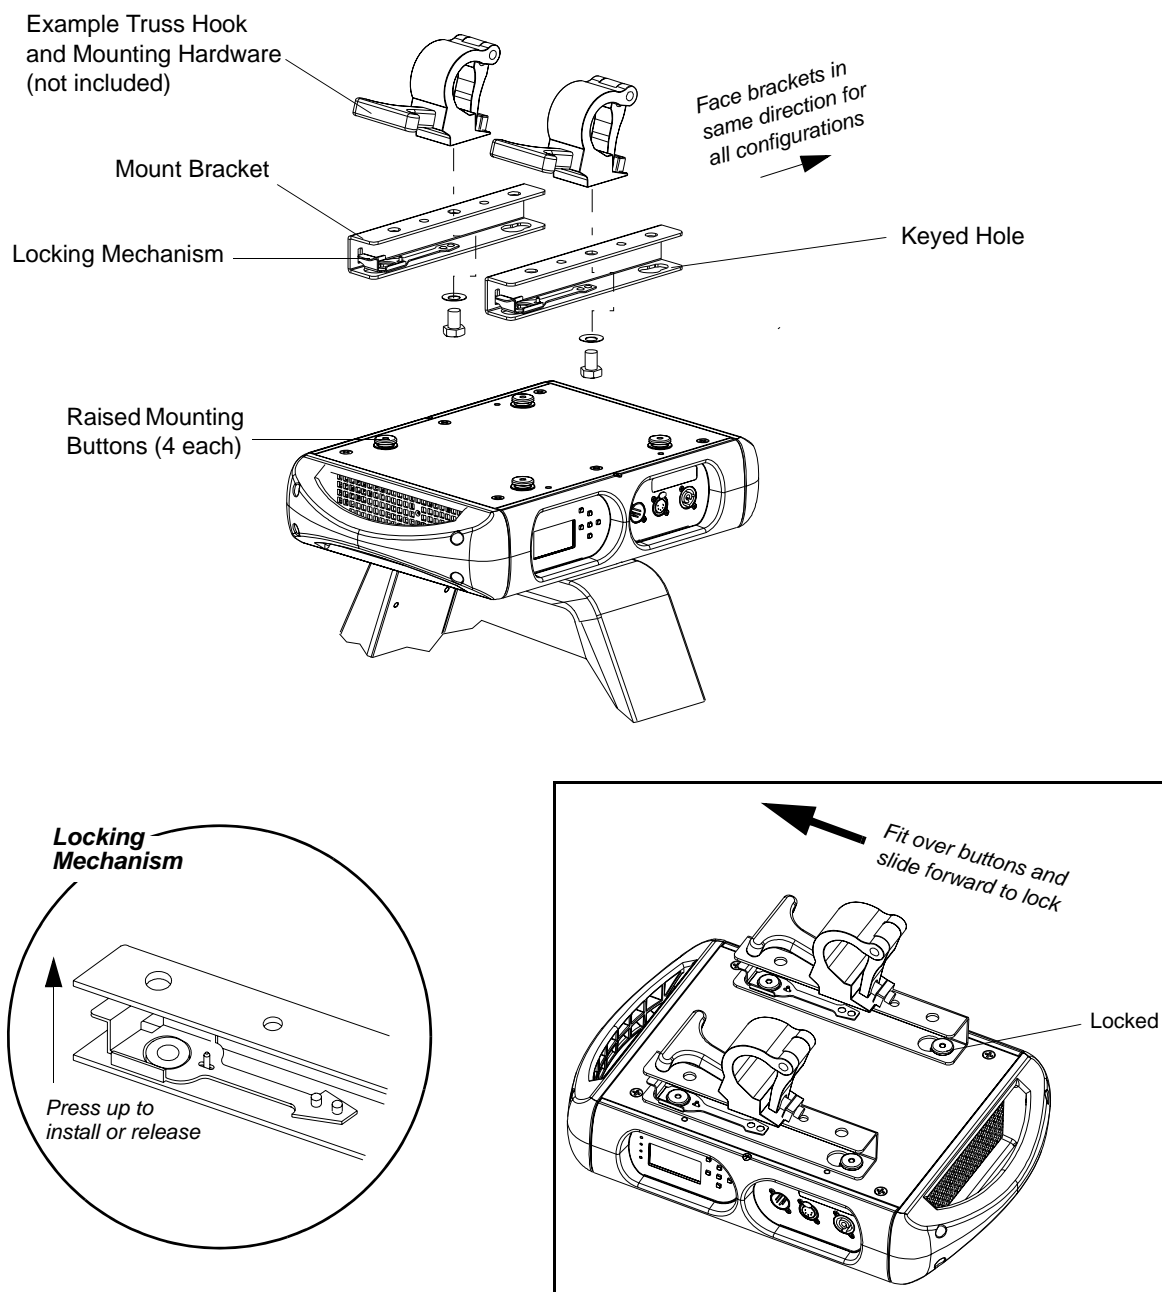

Figure 2-8: Installing Brackets on Luminaire Enclosure
Step 4. After installing truss hooks, the hooks should be oriented as shown in Figure 2-8 and Figure 2-9.